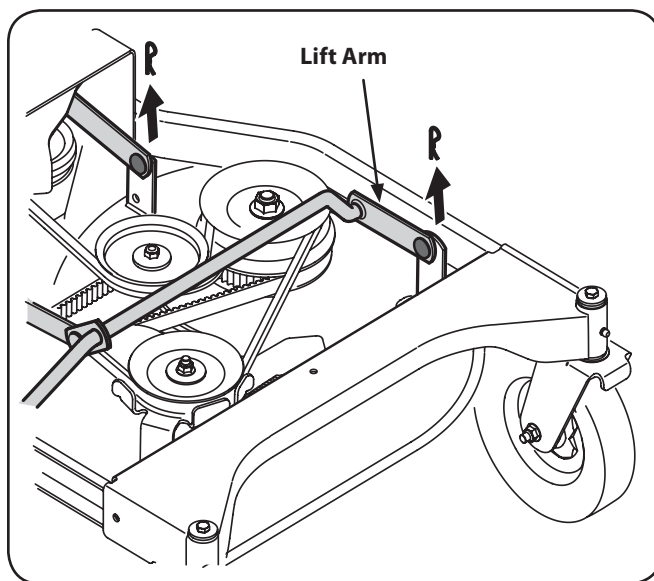

Figure 7-3
7. Looking at the cutting deck from the left side, locate and carefully remove the hairpin clips that secure the deck supports on the rear left side and front left side of the deck. See Fig. 7-3.
9. Carefully remove the front deck supports from the deck lift arms. See Fig. 7-3.